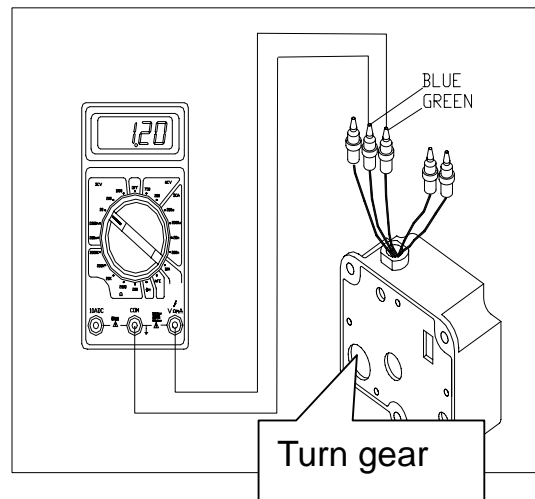

Figure 6. Calibrate the VR.
7. Turn on unit power. Turn the VR gear shown in Figure 6 to set the voltage at 1.20 VDC – the electronic 0% setting. This completes electronic calibration of the VR set.